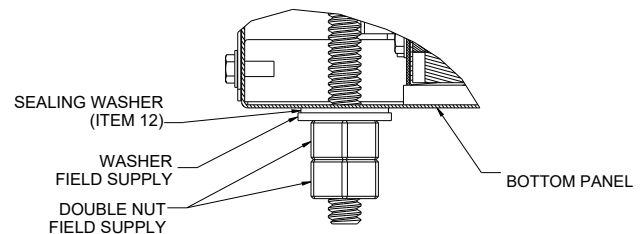

FIGURE F.5
- 1.7** Use the appropriate field provided washer and nut components to secure the bottom panel of the enclosure to the bottom of the Valve Box. (Refer to Figure. F.5)